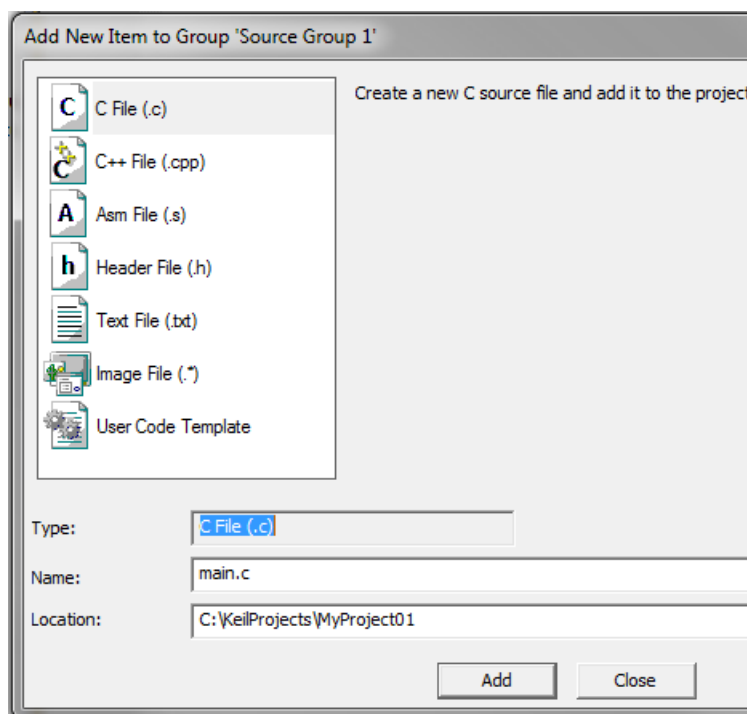

Figure 1-25. Adding new source file dialog
2. Select the C File (.c) option, and type a name of the file into the Name box, for example 'main.c'. See Figure 1-25.